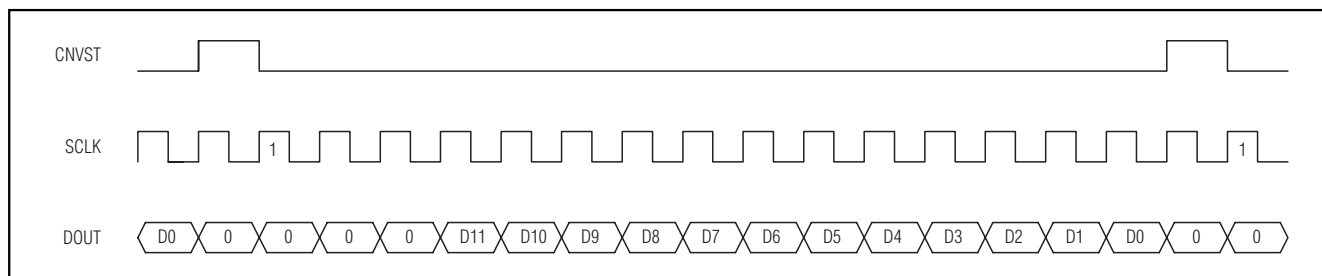
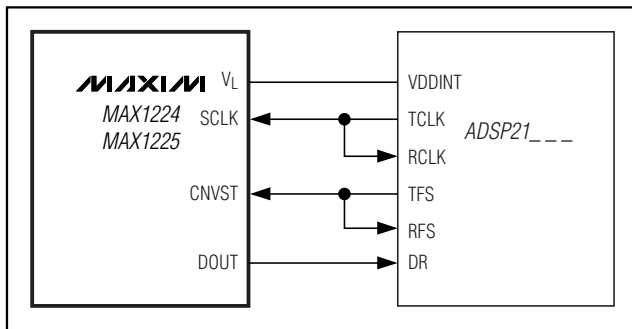

Figure 17. DSP Interface—Continuous Conversion
Figure 19. Interfacing to the ADSP21_...
The MAX1224/MAX1225 can also be connected to the TMS320C54_ by using the data transmit (DX) pin to drive CNVST and the CLKX generated internally to drive SCLK. A pullup resistor is required on the CNVST signal to keep it high when DX goes high impedance and 0001hex should be written to the DXR continuously for continuous conversions. The power-down modes may be entered by writing 00FFhex to the DXR (see Figures 17 and 18).
The MAX1224/MAX1225 can be directly connected to the ADSP21_ _ _ family of DSPs from Analog Devices, Inc. Figure 19 shows the direct connection of the MAX1224/MAX1225 to the ADSP21_ _ _. There are two modes of operation that can be programmed to interface with the MAX1224/MAX1225. For continuous conversions, idle CNVST low and pulse it high for one clock cycle during the LSB of the previous transmitted word. The ADSP21_ _ _ STCTL and SRCTL registers should be configured for early framing (LAFR = 0) and for an active-high frame (LTFS = 0, LRFS = 0) signal. In this mode, the data-independent frame-sync bit (DITFS = 1) can be selected to eliminate the need for writing to the transmit-data register more than once. For single conversions, idle CNVST high and pulse it low for the entire conversion. The ADSP21_ _ _ STCTL and SRCTL registers should be configured for late framing (LAFR = 1) and for an active-low frame (LTFS = 1, LRFS = 1) signal. This is also the best way to enter the power-down modes by setting the word length to 8 bits (SLEN = 1001). Connect the V_L pin to the ADSP21_ _ _ supply voltage when the MAX1224/MAX1225 are operating with a supply voltage higher than the DSP supply voltage (see Figures 17 and 18).